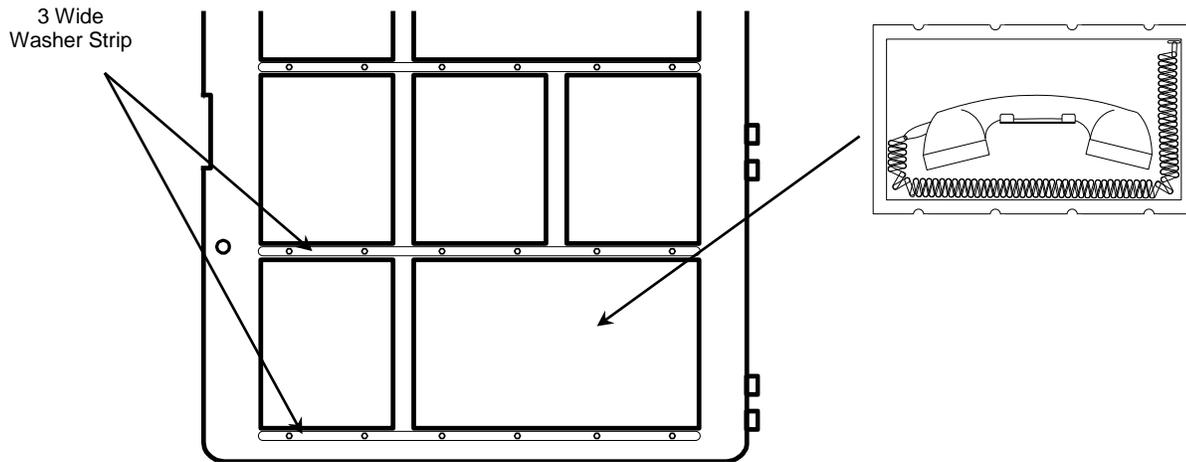

Figure 51 – NX-TEL or NX-TEL-MCCS Command Center Firefighter Phone Enclosure Installation
The SHIELD command center NX-CC01-BB-ID2 (3x3 command center) or NX-CC02-BB-ID2 (3x5 command center) inner doors can support either an NX-TEL or NX-TEL-MCCS command center firefighter phone and enclosure mounted in the bottom left side double aperture (see figure 51).
To install the NX-TEL or NX-TEL-MCCS command center firefighter phone enclosure, remove the nuts and washers holding the two (2) lower washer strips (3-wide washer strip) in place. Remove the washer strips and install the NX-TEL or NX-TEL-MCCS command center firefighter phone enclosure in the double aperture opening, replace removed washer strips and secure with the removed nuts and washers (see figure 51).